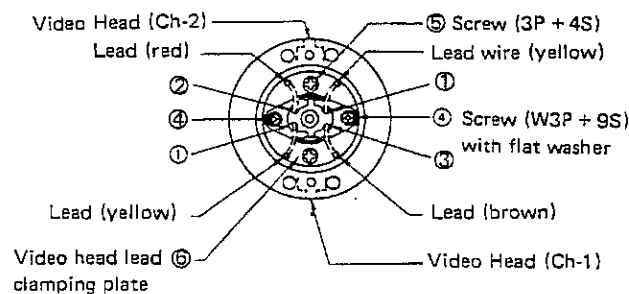

Figure 27
1. Fit a replacement drum as shown in figure 27, taking care to correctly position the respective leads.